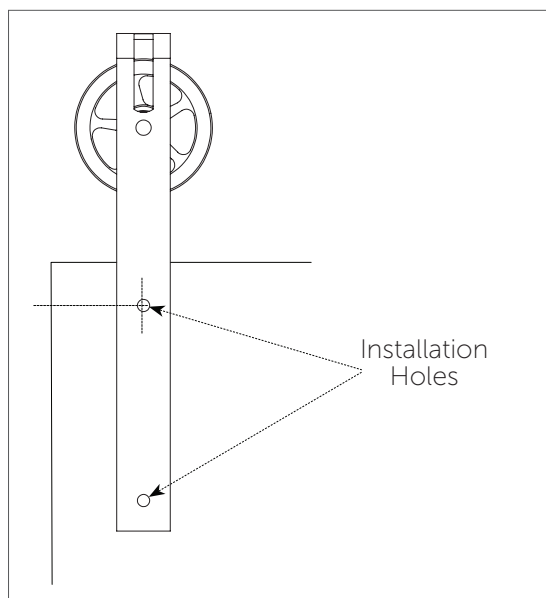

Figure 2
2. Place the hanger on the front of the door facing up with the upper installation hole over the intersecting mark. Mark the upper and lower installation holes on the door with a pencil. (Figure 2).